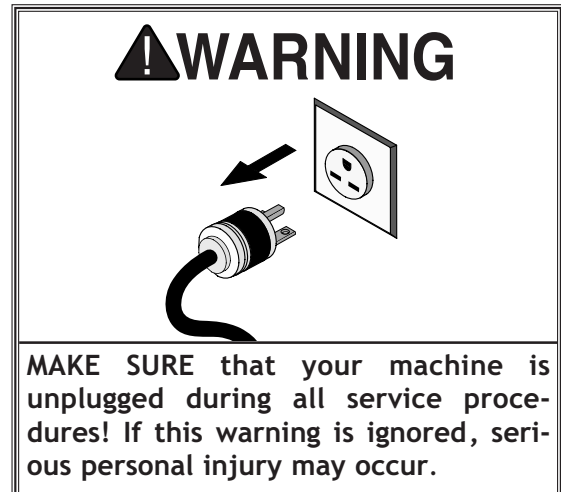

Figure 52. Feed motor end view.
2. Unscrew the both motor dust cover retaining screws and remove the dust cover **Figure 52**.